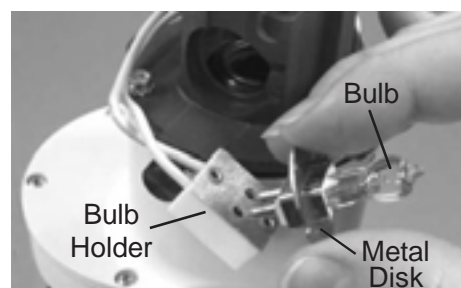

Figure 32 New Bulb
5. Grip the Bulb by the Metal Disk that is attached to it, and pull it out of the Bulb Holder. Refer to Figure 32.
6. Replace the Bulb with a new one and install it by pushing the prongs into the Bulb Holder so that the Notch is positioned to the right. Refer to Figures 32 and 33.